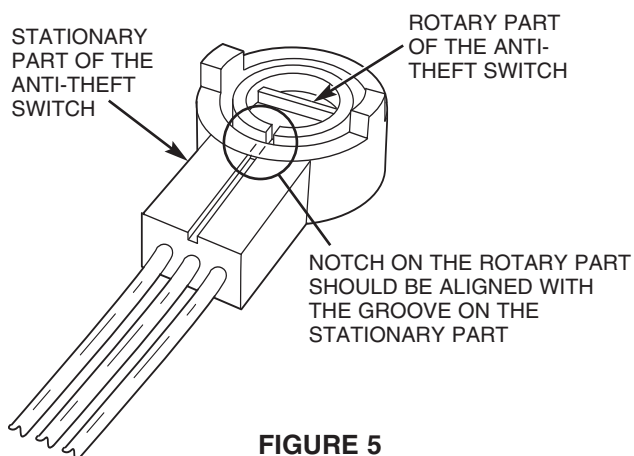

**FIGURE 3**
2. Insert the detent spring (I) into groove located on the interior surface of the lock case (F).
3. Insert the detent pin (J) into the groove located on the interior surface of the lock case (F).
4. Insert the shutter spring (L) into the round hole at the front of the lock cylinder (D) and the shutter assembly (K) into the rectangular depression located at the front of the lock cylinder (D).
5. Select the required tumblers (B) according to the key cut depths, for key stations 1, 2, 3, 4, 5 and 6. For example, if the key cut depths codes are 53214124, then use B5 for Station 1, B3 for Station 2, B2 for Station 3, B1 for Station 4, B4 for Station 5, etc. Stations 7 and 8 are not used.
6. Insert one (1) tumbler spring (C) into each of the holes located at the end of the tumbler slots on the lock cylinder (D) sub-assembly.
7. Insert the required tumblers (B) into tumbler slots in the proper orientation (refer to Figure 3) and in the sequence that match the key cut depths, for key stations 1, 2, 3, 4, 5 and 6.
8. Insert the key into the keyhole and verify that all tumblers (B) are flush with the lock cylinder (D) sub-assembly's exterior surface.
9. With the key in the lock cylinder (D) sub-assembly, apply the included grease (E) to the tumbler slots.
10. With the key in the lock cylinder (D) sub-assembly, insert the lock sub-assembly into the lock case (F).
11. Rotate the lock cylinder (D) sub-assembly within the lock case (F) at least ten (10) times so that the grease applied to the tumbler slots is distributed along the inner surface of the lock case (F) and the exterior surface of the lock cylinder (D) sub-assembly.